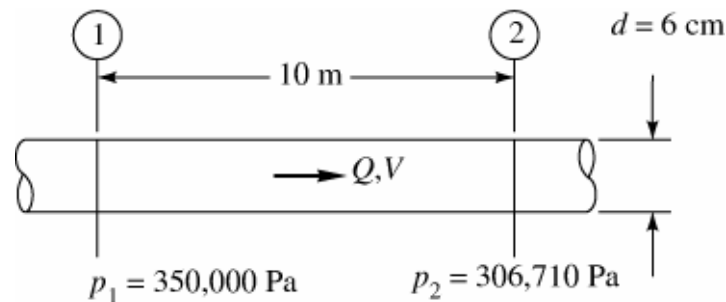

Figure 4
An oil with  $\rho = 900 \text{ kg/m}^3$  and  $\mu = 0.18 \text{ Ns/m}^2$  flows through a pipe as shown in Figure 4. The pressures are known at sections 1 and 2, 10m apart. Given the flow rate by  $\nabla = 0.456 \text{ m}^3$  collected in  $t = 1 \text{ min}$ , (a) compute the Reynolds number and tell whether the flow is laminar or turbulent, (b) compute the friction coefficient by Equation (14).